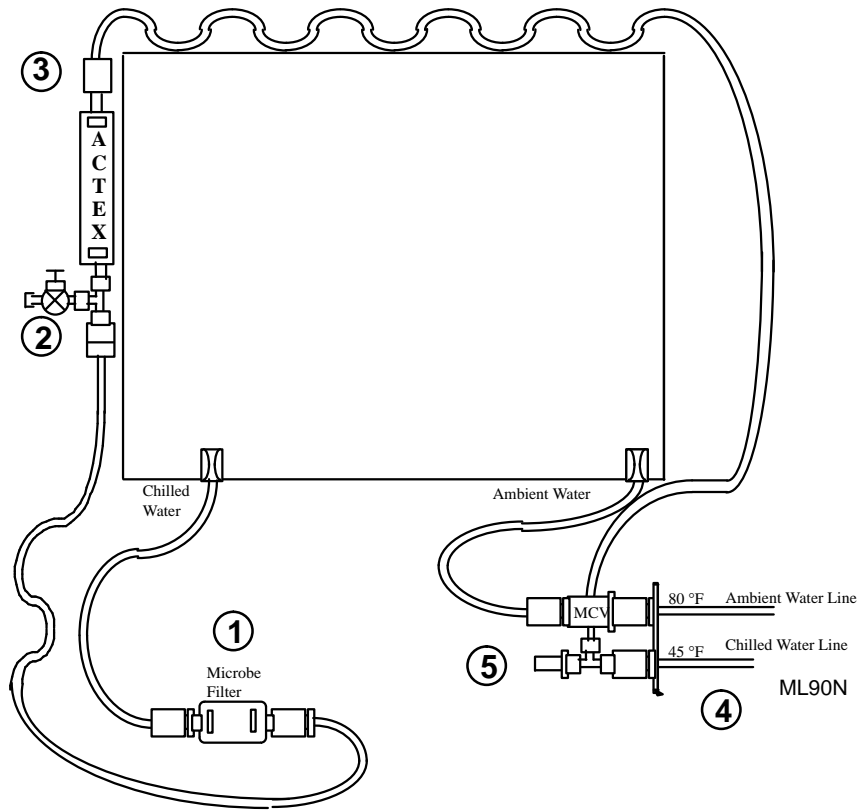

Figure 7-1.- GIRA configuration (connections and routing).
2. Install MCV on Ambient (uninsulated) supply line by connecting MCV to Ambient QD at QD bracket and connecting Galley Ambient supply hose to other end of MCV (See figure 7-1)
Secure Microbe filter below galley with hose connection forward. (Reference figure 7-1).